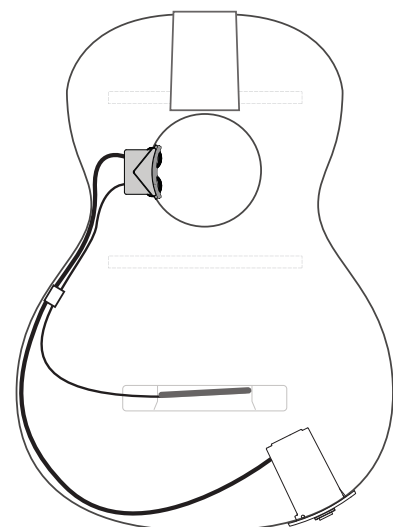

Figure 5.
2. We recommend securing the wires inside the instrument with adhesive-backed clips (figure 5).